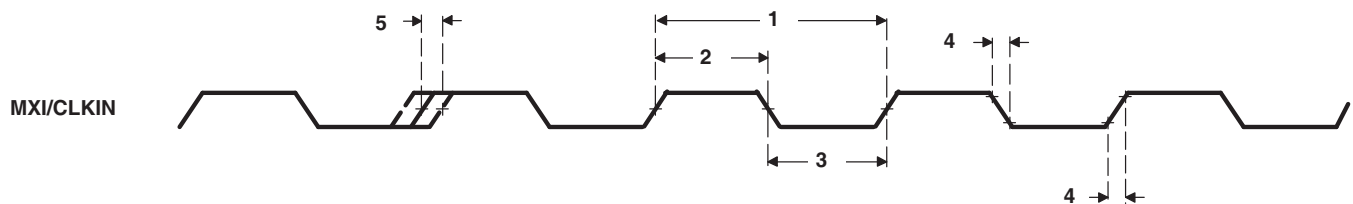

Figure 6-15. M24XI Timing
Table 6-17. Timing Requirements for M24XI Devices^{(1) (2) (3)} (see Figure 6-15)